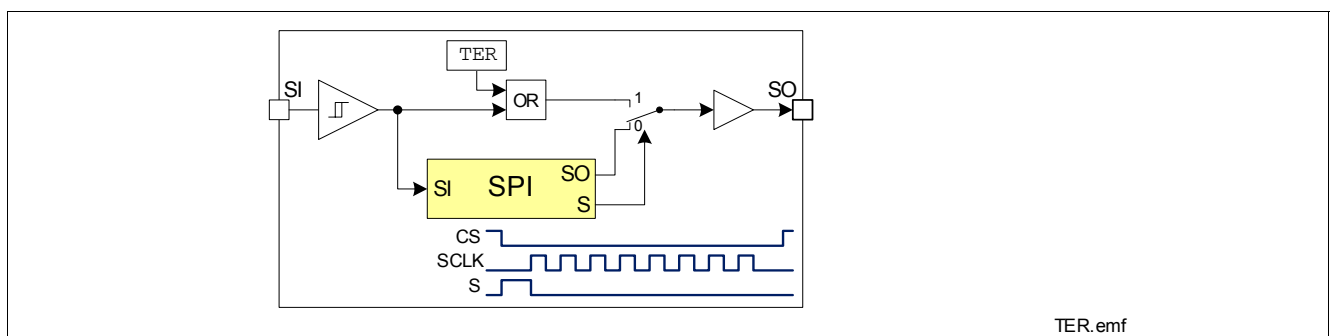

Figure 9 Transmission Error Flag on \overline{SO} Line
- \overline{SO} changes from high impedance state to high or low state depending on the logic OR combination between the transmission error flag (\overline{TER}) and the signal level at pin \overline{SI} . As a result, even in daisy chain configuration, a high signal indicates a faulty transmission. The transmission error flag is set after any kind of reset, so a reset between two SPI commands is indicated. For details, please refer to Figure 9. This information stays available to the first rising edge of \overline{SCLK} .